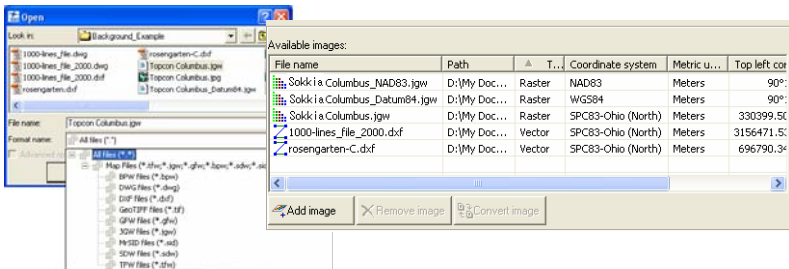

Figure 2-47. Selecting the Image File
3. Select the desired image file in the **Open** dialog box, then click **Open**. This image will be displayed in the left panel (**Available Images**) of the **Background images** dialog box (Figure 2-47). An unlimited number of images can be activated in this panel.